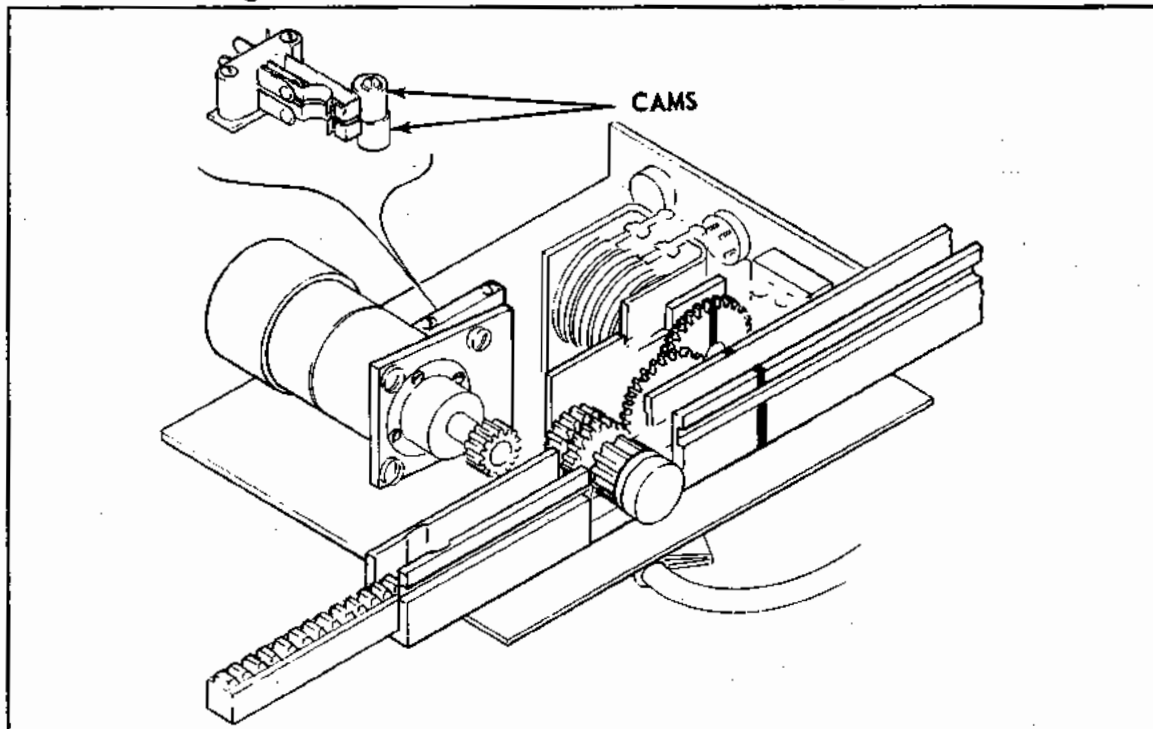

Figure 4-2. Switch Adjustment Cams
4-5. ADJUSTMENT OF SERVO SELECTOR SWITCH AND PITCH AUTOPILOT SERVO MOTOR SWITCH. (Refer to Figure 4-2.) This adjustment procedure is for AltiMatic II Installations containing the Rack and Pinion type servo. The cams used for adjustment of the switches are double stacked on the same retaining screw. The top cam adjustment is for the servo selector switch and the bottom cam adjustment is for the pitch servo motor switch. The following detailed adjusting procedures will explain the adjusting details for both switches. The switches are actuated by the AltiMatic II pitch engage knob. The cams must be adjusted so the top switch (servo selector switch) actuates when the AltiMatic II pitch engage knob is rotated through the 11:00 o'clock position and the bottom switch (AutoPilot servo motor switch) actuates when the AltiMatic II pitch engage knob is rotated through the 1:00 o'clock position. In addition, the bottom switch must actuate before the AutoPilot servo motor gears begin to mesh and both switches must deactuate before the AltiMatic II pitch engage knob is rotated to its OFF position.
- a. SWITCH ADJUSTMENT PROCEDURE. (Refer to Figure 4-2.)